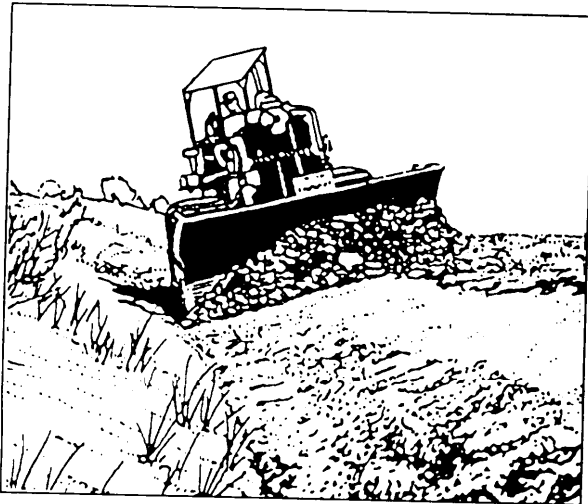

Figure 11-32.-Angle blade ditch cut.
An **angle blade** is preferable for digging a “V” type of ditch for two reasons: (1) you can side cast the windrow in a single pass and (2) the angled blade will side cast the material to the sides of the ditch as you travel along the windrow, as shown in figure 11-32.